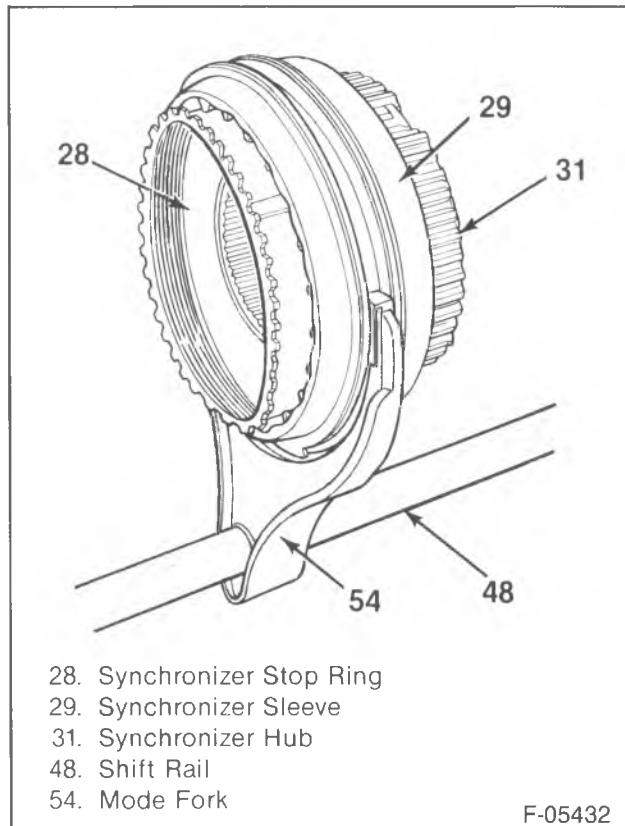

Figure 16—Synchronizer Hub Assembly and Mode Fork
- Nut (63) to 27 N·m (20 ft. lbs.).
- 7. Range shift hub (34) and the range shift fork into the front case half (45).
- 8. Synchronizer assembly, mode shift fork (54) and rail into the front case half (45) (figure 16).
- 9. Front output shaft (21) to the front case half (45).
- 10. Driven sprocket (22) into the chain (58).
- 11. Drive sprocket (20) and mainshaft (19(=)) into the chain (58).
- Mainshaft (19), drive sprocket (20), driven sprocket (22) and chain (58) are installed as a unit.
12. Retainer (snap ring) (23) onto the front output.
13. Fork shift spring (52) onto the mode shift rail (48).